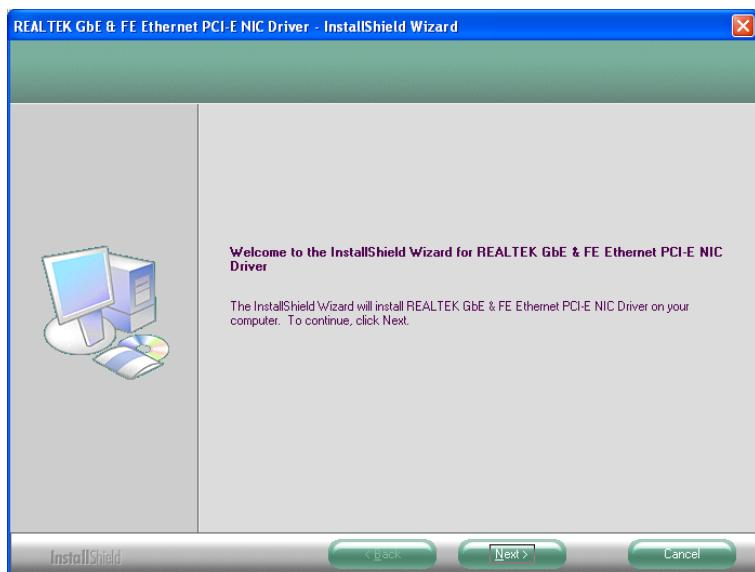

Figure 6-17: LAN Driver Welcome Screen
Step 3: The **Welcome** screen in **Figure 6-17** appears.